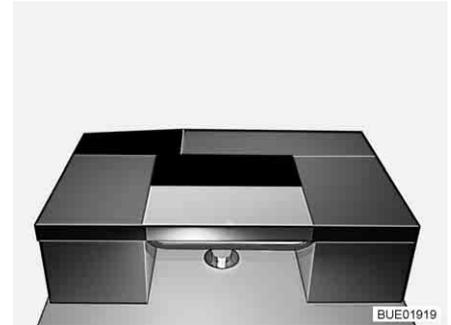

Fig. 126 After conversion
- Place the additional cushion horizontally onto the table (see Fig. 126).